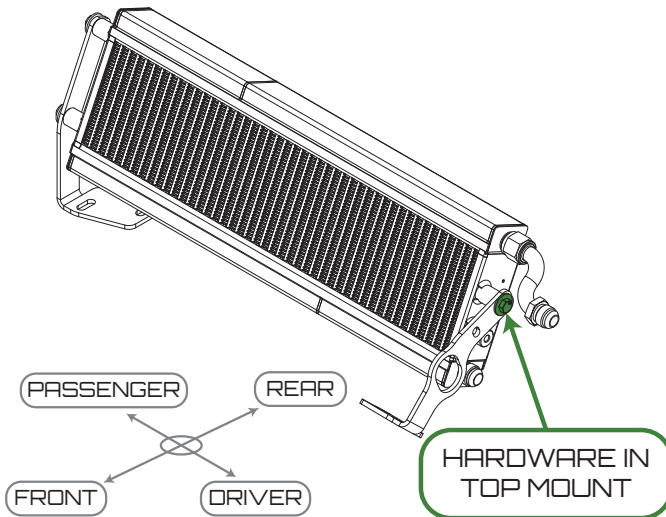

Figure 5 - Loosely Assembling the Driver Bracket
11. Loosely attach EC5-600-02 using one HSC-1010 and HWA-1005 as shown in Figure 5.